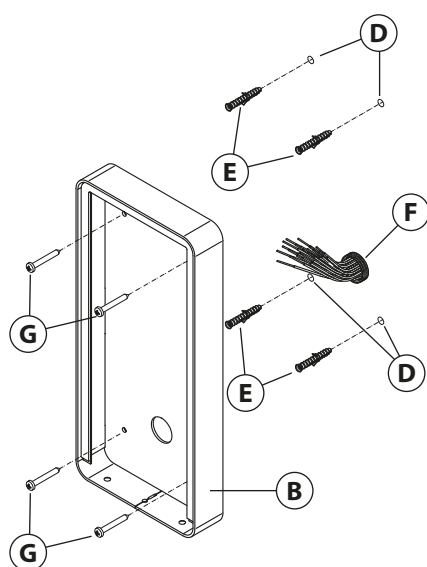

Fig. 3
3. Drill the 4 fixing holes (D), insert the wall plugs (E) and feed the cables (F) through the surface box, fix surface box to the wall using the screws (G) (**Fig. 3**);